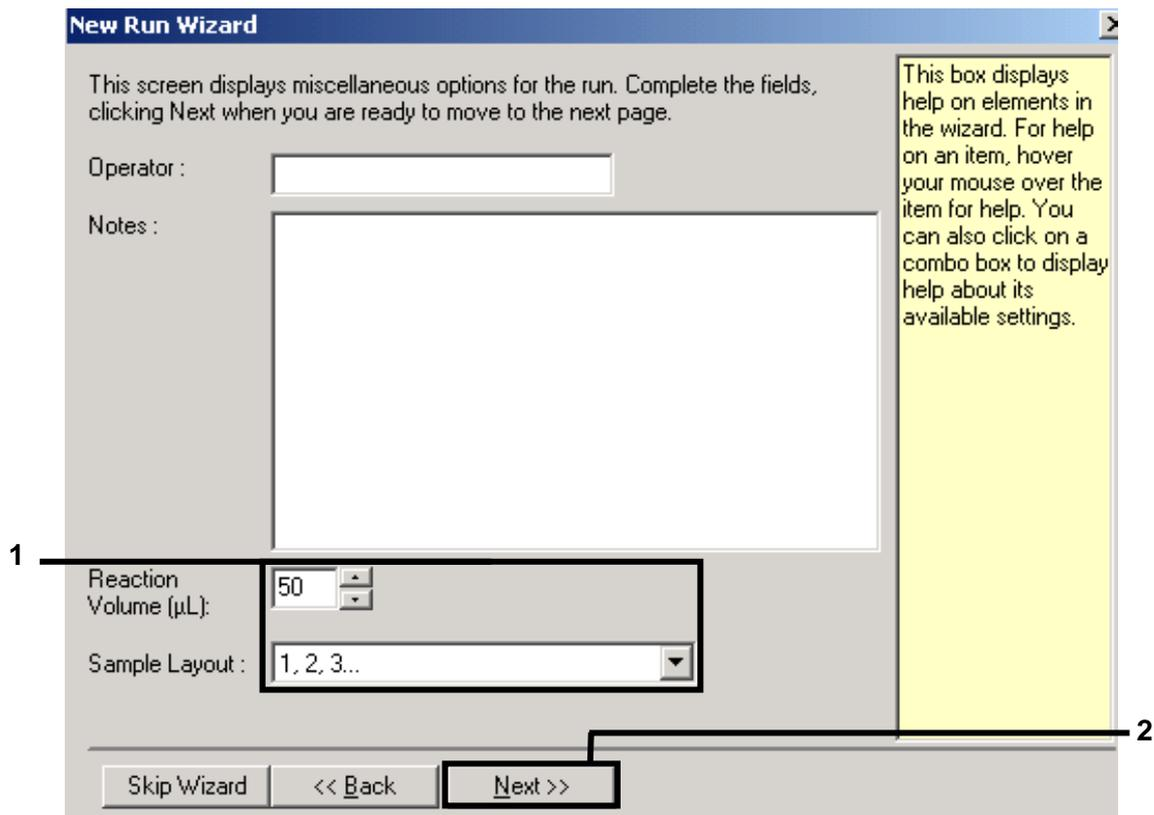

Figure 2. Setting the general assay parameters.
6. Select 50 for the PCR reaction volume and click "Next" (Figure 2).